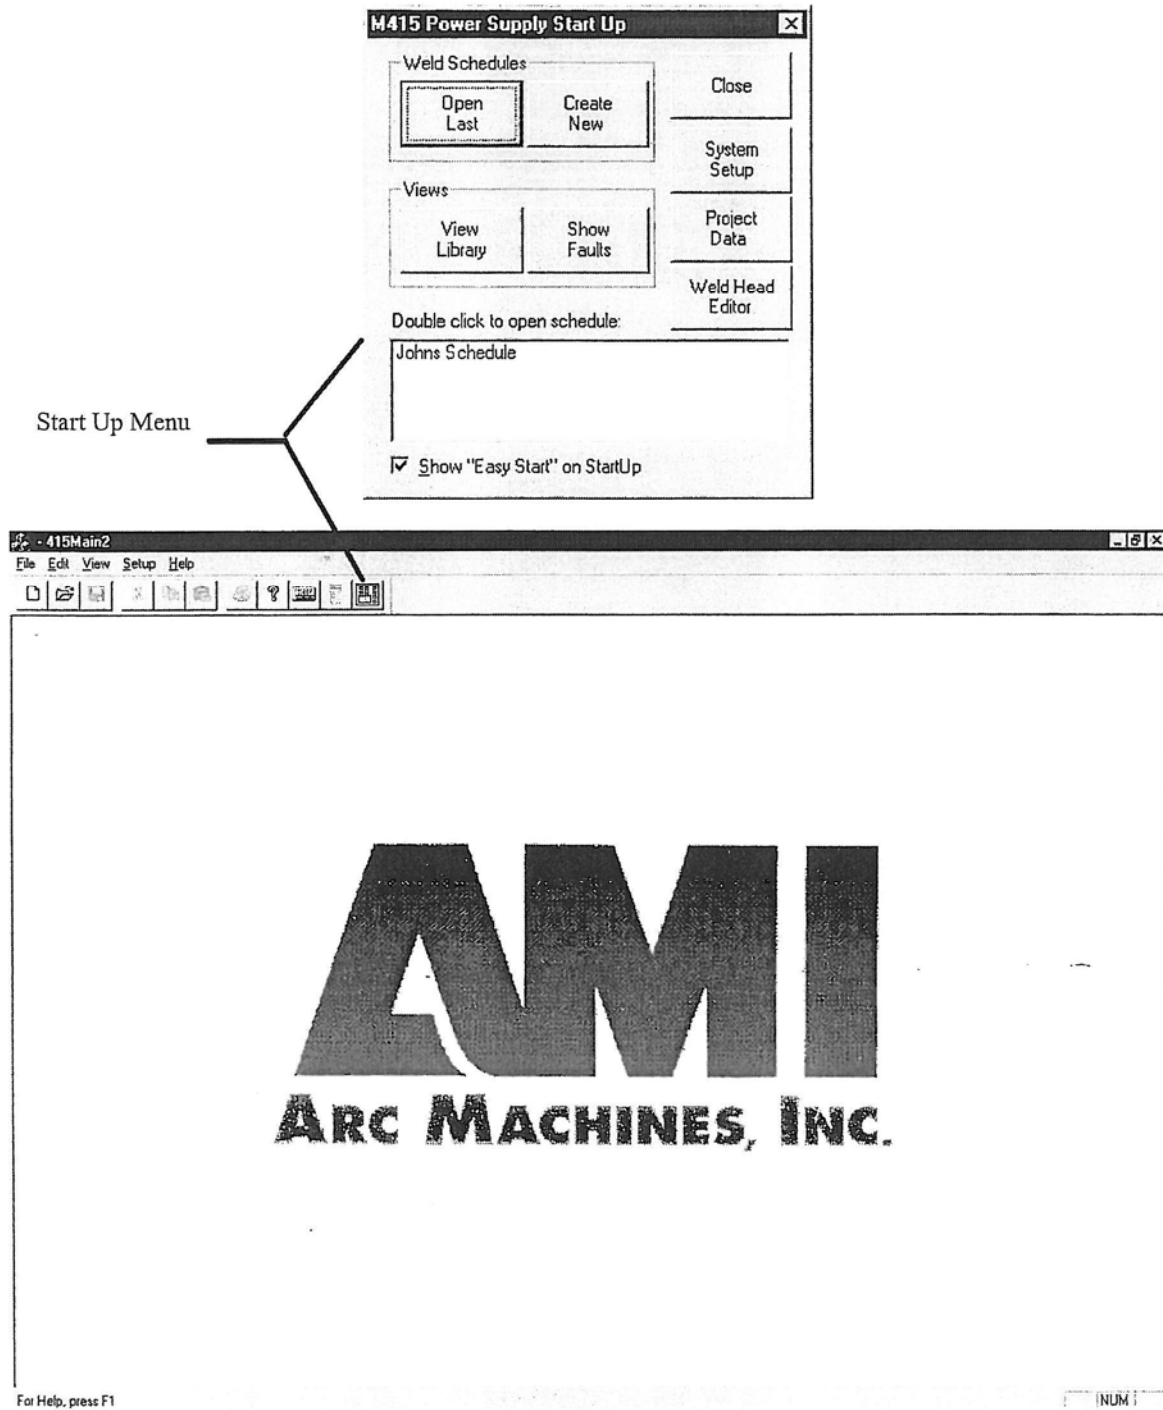

FIGURE 4
6. The first display on the screen is called the LOGO/START UP display and should look similar to Figure 4. The Start Up Pop Up Menu may appear where the AMI Logo is in the Figure. If it does not, touch the control panel icon (last one) on the tool bar and the Start Up menu will appear. Touching the "show easy Start" box will make the Start Up box appear on start up instead of the AMI logo (user choice).